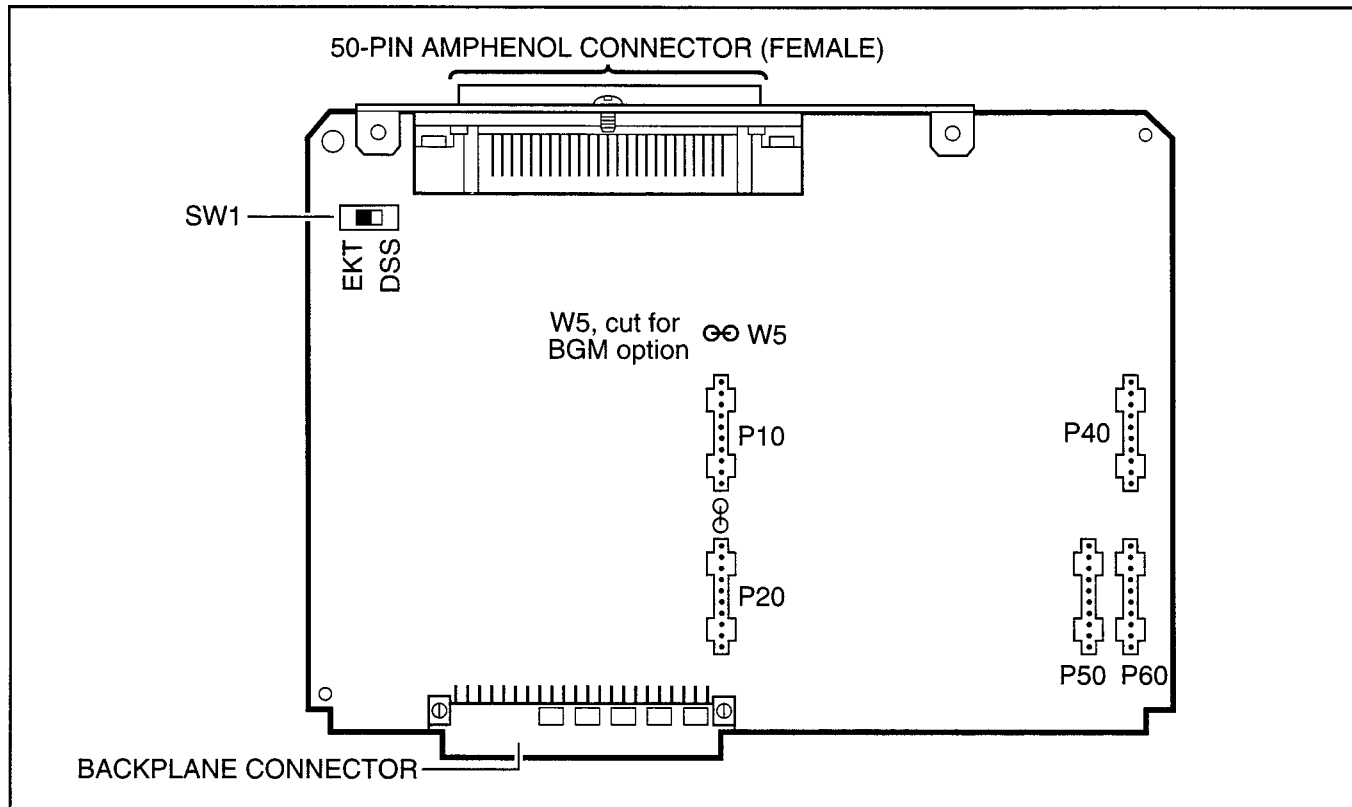

FIGURE 5-13
8.03 PEKU controls and interface connectors are shown in Figure 5-13 and described in Table 5-B.
PEKU connectors P10, P20, P40, P50, and P60 are positioned to allow installation of the EOCU only in the proper position (Figure 5-13).